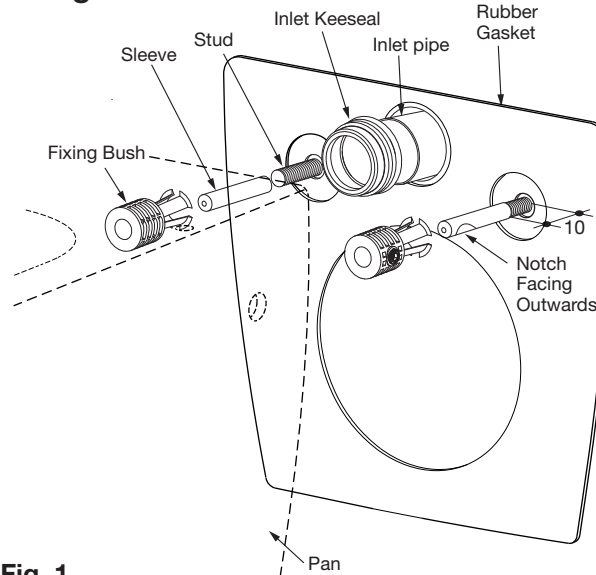

Fig. 1
- 7 - Fix the mounting sleeves onto fixing studs so that 10mm of thread is exposed in front of the gasket, as detailed in **Fig. 1**.